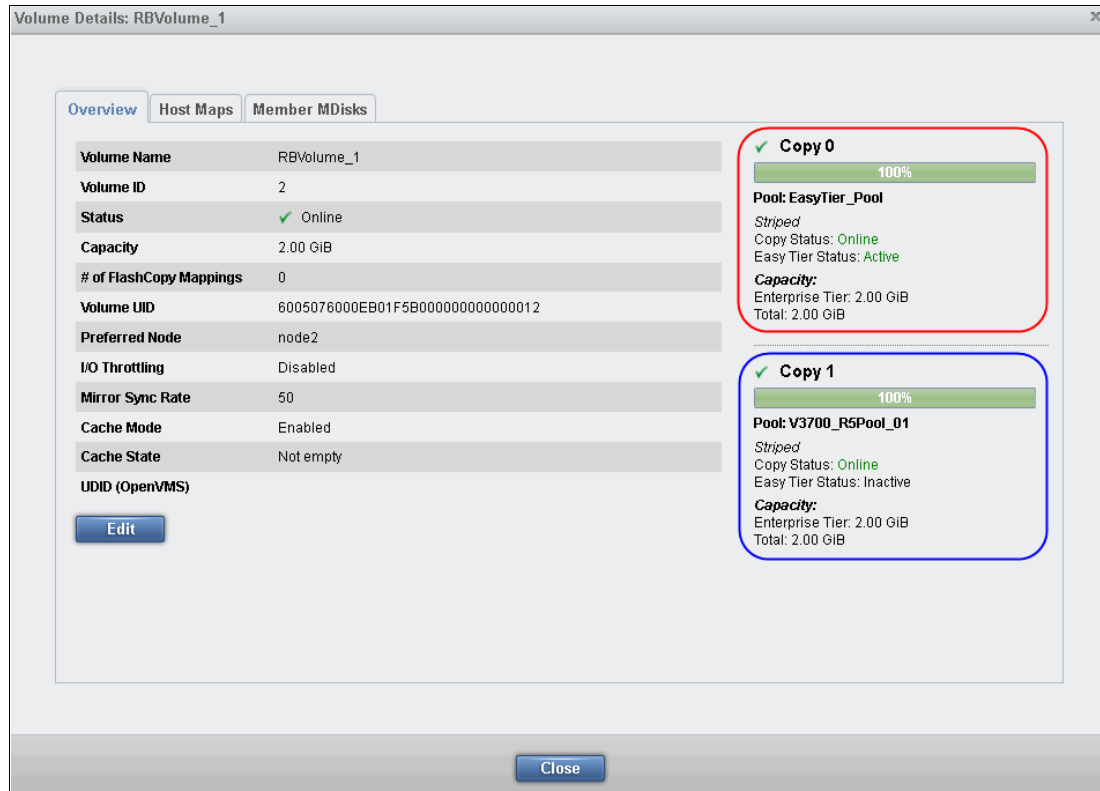

Figure 9-24 Easy Tier by Copy
11. If a volume has more than one copy, Easy Tier can be enabled and disabled on each copy separately. This action depends on the Storage Pool where the volume copy is defined. You can see a volume with two copies that are stored in two different Storage Pools, as shown in Figure 9-24.